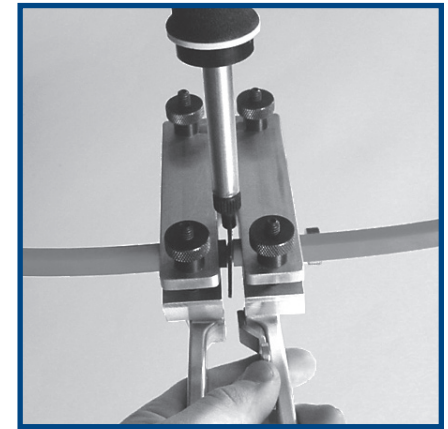

Figure 4
7. Loosen thumb nut on right approximately 1-1/2 turns and allow the handles to open. With your left thumb, hold the spacer forward and with your right hand, insert the hot knife blade between belt ends and squeeze handles gently, allowing the blade to melt the ends without compressing the material. Refer to Figure 4.